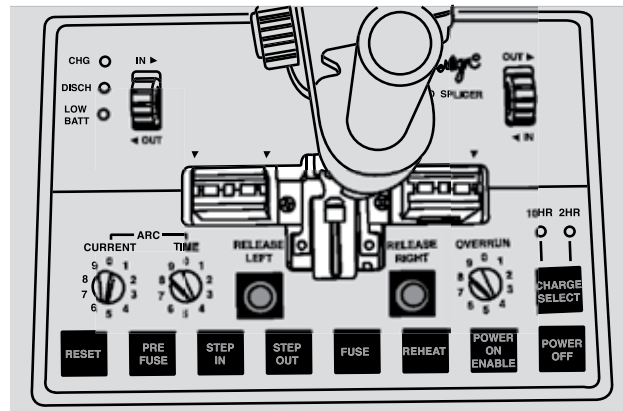

FIGURE 16
16. Splice the two prepared fibres together using tools and equipment as per company practices. Once the splice has tested acceptable, centrally position the splice protector over the fibre splice and shrink in position as per company practices. (Figure 16)